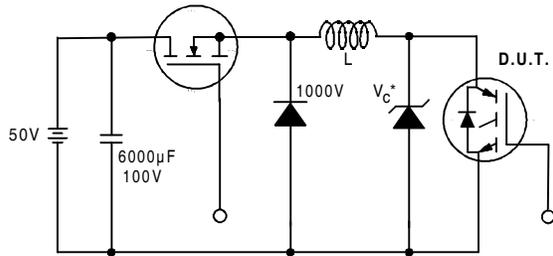

Figure 19. Clamped Inductive Load Test Circuit
- ② $V_{CC}=80\%(V_{CES})$, $V_{GE}=20V$, $L=10\mu H$, $R_G = 100W$ (figure 19)
- ③ Pulse width $\leq 80\mu s$; duty factor $\leq 0.1\%$.
- ④ Pulse width 5.0 μs , single shot.